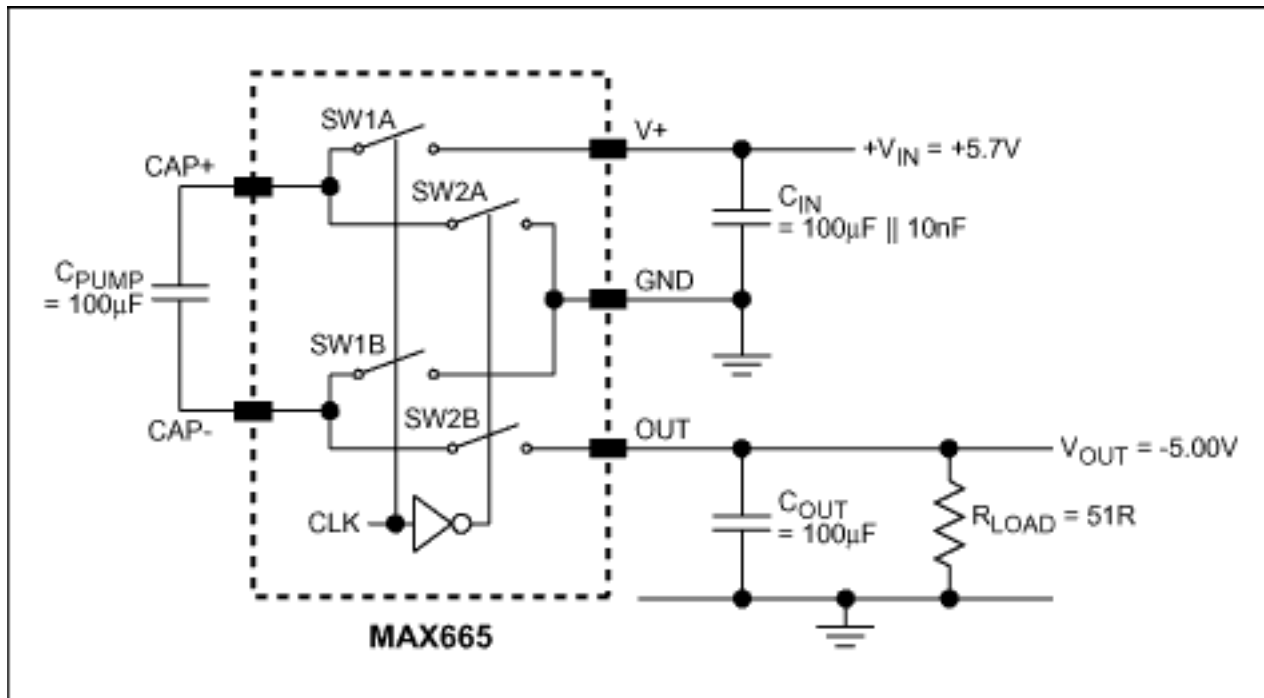
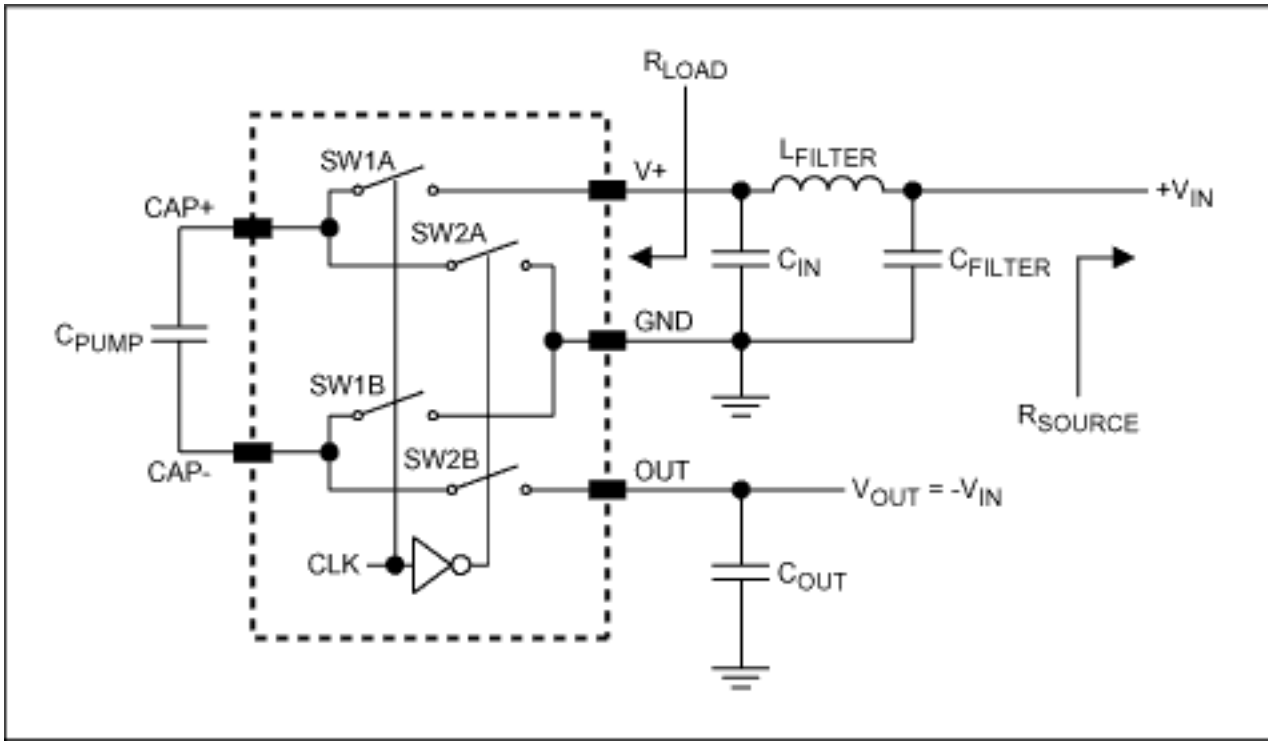
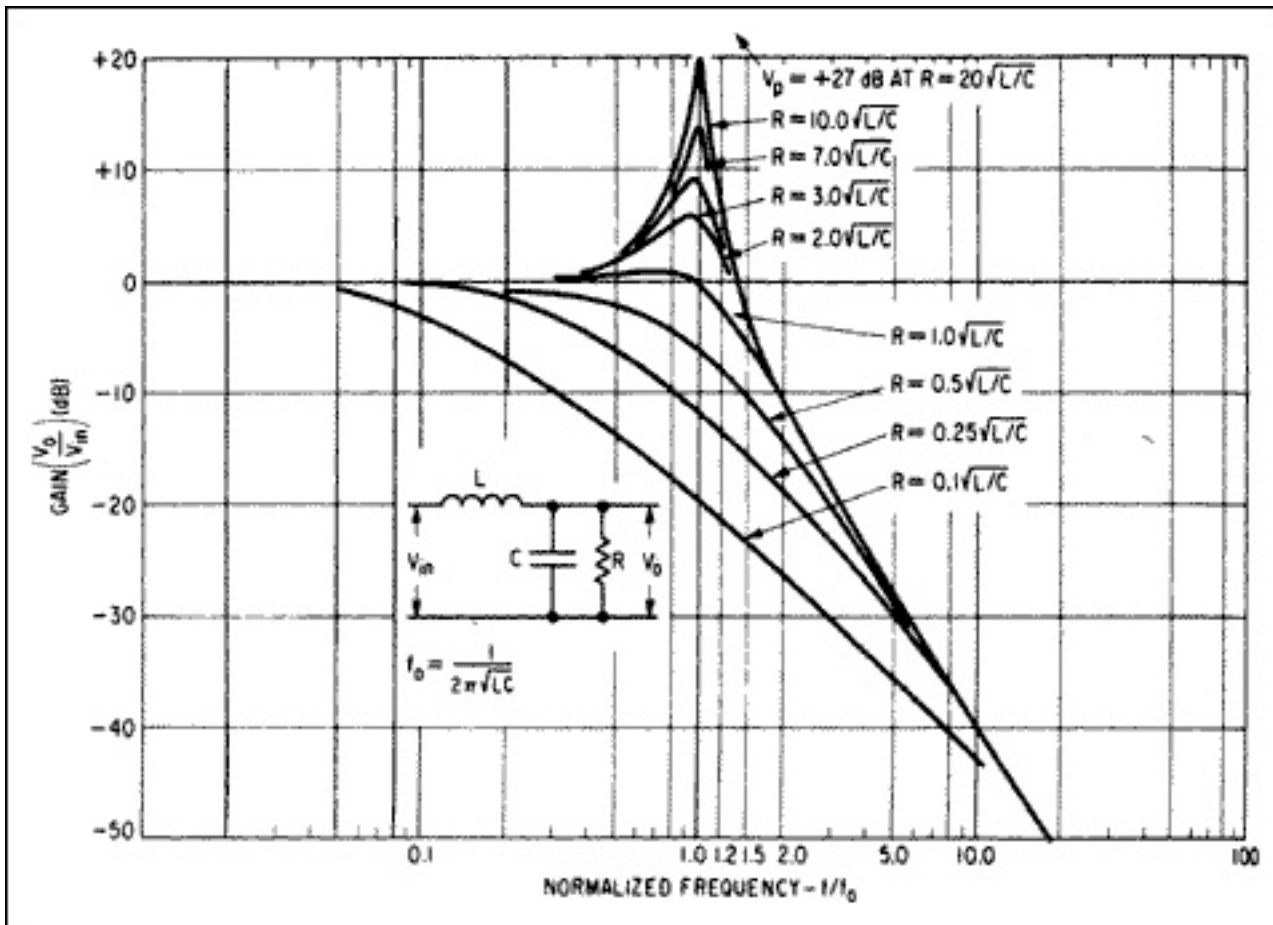

Figure 3. This charge-pump inverter circuit is used for measurements.
Figure 5. Charge-pump inverter with input LC filter.
Figure 6. Amplitude characteristic for various damping ratios in the LC-Filter circuit of Figure 5.
Input and output ripple is caused by rapid charging and discharging of the pump capacitor. An inverter circuit (**Figure 3**) built around the MAX665 charge pump and producing 5V across 51Ω , illustrates the input-ripple artifacts (**Figure 4**). (Ripple produced by the high-current, low-frequency ($\leq 100\text{kHz}$) MAX665 is easily measured.)
2. Instead, add an LC filter at the input supply pin (**Figure 5**). The additional filtering prevents ripple from propagating to other circuits via the input supply trace. As a second-order filter, the LC network minimizes the component count. In addition, its small series inductance produces a minimal voltage drop between the input supply and the charge pump.
Critical damping is not essential to the circuit operation, however. Filtering remains effective even with some peaking at the point of roll-off. A $10\mu\text{F}$ filter capacitor and $10\mu\text{H}$ filter choke together provide a 3dB frequency of 15.9kHz and a critical R_{SOURCE} of 1Ω . **Figure 6** shows the Figure 5 circuit's amplitude response for various damping ratios, and **Figure 7** shows its lower levels of ripple (vs. the circuit of Figure 3).
Figure 7. Input voltage and current ripple of LC-filter circuit (Figure 5). $C_{IN} = C_{FILTER} = 100\mu\text{F}$, and $L_{FILTER} = 10\mu\text{H}$. Charge pump is MAX665. Input current ripple (upper trace): 100mA/div. Input voltage ripple (lower trace): 50mV/div, AC coupled.